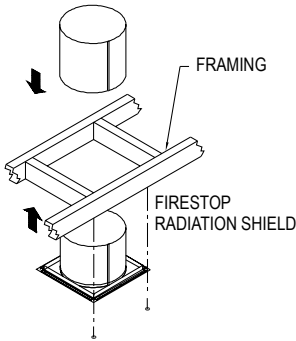

Figure 8
Note: a Firestop Radiation Shield is not installed where the chimney penetrates through the roof. The Firestop Radiation Shield is installed on the underside of the ceiling/floor framing, with the cylindrical “tube” portion of the shield pointing upward. (**Fig 8**). Use a minimum of either (1) 8 penny nail or (1) #8, 1-1/2” wood screws per corner. Refer to **Table 2** for framing requirements.